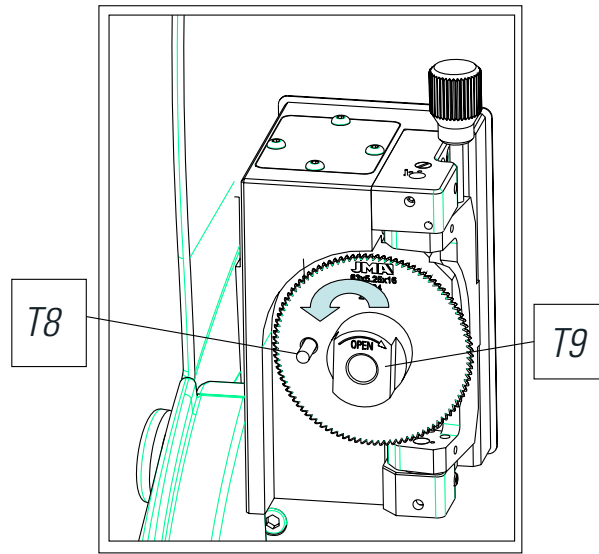

FIG. 24
- 3) Introduce the blocking rod (T8), which is in the accessory box (Fig. 24)